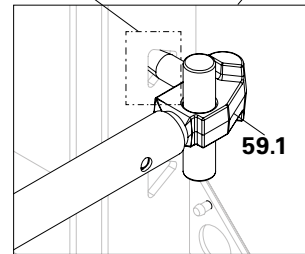

Fig. A8.05a
- Insert the forged head (59.1) into the triangular slot of the panel where there is misposition. (Fig. A8.05a)